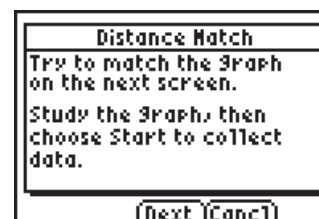

Figure 5
- Select **Start** (by pressing $\boxed{\text{ZOOM}}$) and follow the instructions on the screen. **Distance Match** automatically takes care of the settings. **See Figure 5.**